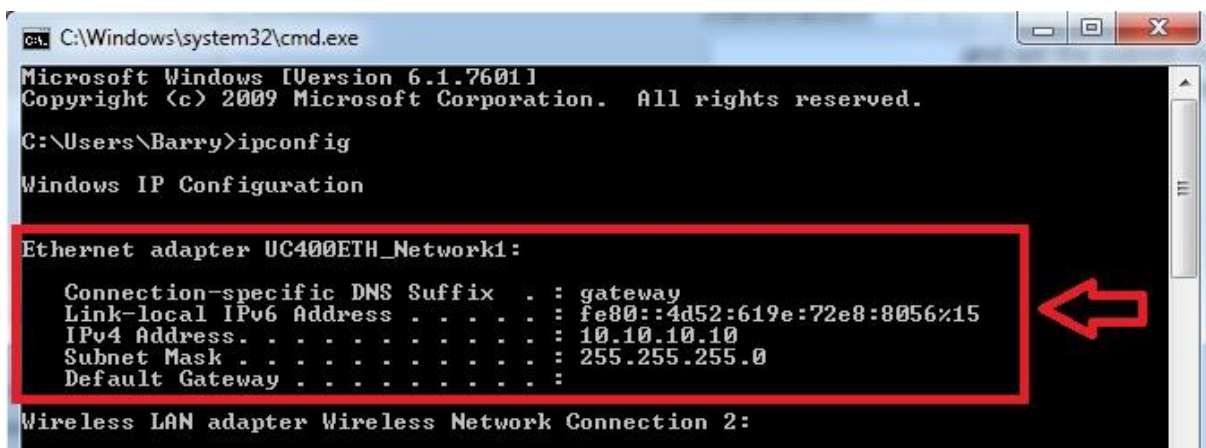

Figure 32: ipconfig settings confirmation
- 8- To verify that the settings got validated open up a command window with typing 'cmd' into the start menu and in the command window type 'ipconfig'. The result should look like as on the following image in Figure 32. Please note that the Ipv4 address of our adapter got the 10.10.10.10 value with a subnet mask of 255.255.255.0 value.